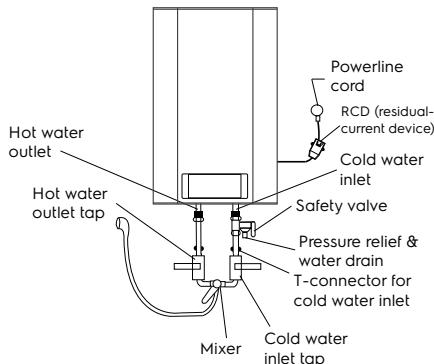

**Figure 5**
2. After selecting the mounting location, determine the locations for the two hook bolts (depending on the specifications of the selected item). Make two holes in the wall of the required depth using a drill bit that matches the size of the mounting bolts, insert the screws, turn the hook up, tighten the nuts, and then install the electric water heater on it (see Fig. 5).